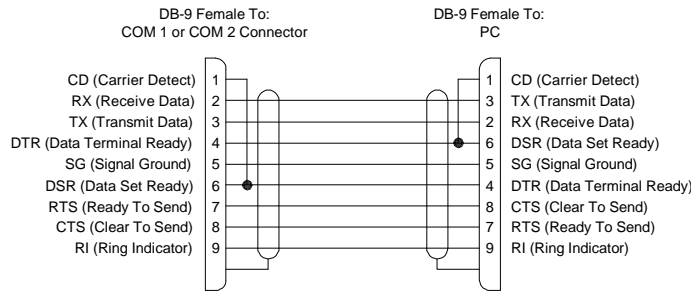

Figure 8. RS-232 CPU Link (Null Modem) Cable
- COM 1 is the primary RS-232 CPU link and may be connected to the PC running the control system software (e.g. Win3500, Win3500Plus, etc.) with a null modem cable (Part No. 81-9028-0393-0). If necessary, a cable up to 50 feet in length may be fabricated in the field as shown in Figure 8. If a 3500Plus system controller is installed, COM 1 may only be used with the P1E protocol, at either 9600 or 38400 baud. Consult the manual for your system controller to determine how to set the communication rate.